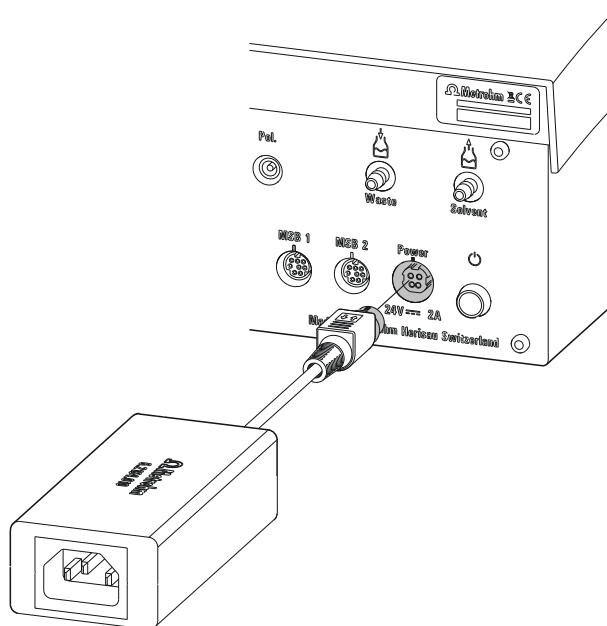

Figure 3 Connecting the power supply unit
- 1 Connect the plug of the external power supply unit with the power socket of the Ti-Touch (see figure 3, page 12).